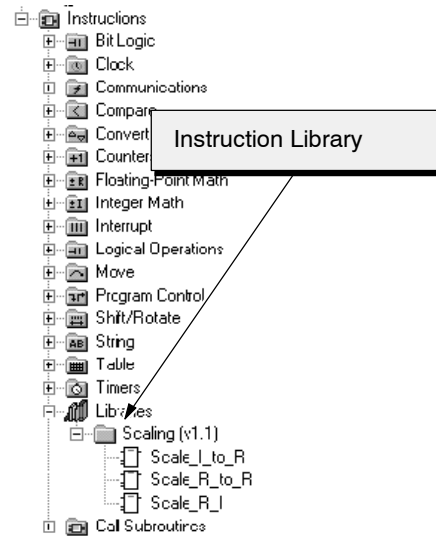

Figure 5-11 Instruction Tree with Libraries
STEP 7-Micro/WIN allows you either to create a custom library of instructions, or to use a library created by someone else. See Figure 5-11.